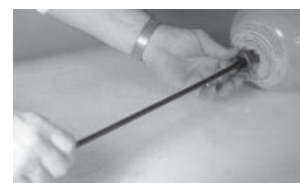

FIGURE 9
6. **Figure 9.** Once the bladder valve stem has been pulled through the valve stem opening in the shell, install the valve stem nut by hand. Once the valve stem nut is in place, remove the bladder pull rod.